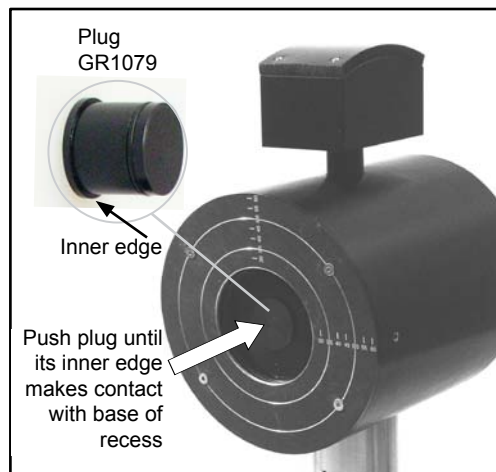

Fig. 4.14
- Test instruments such as those shown in Fig. 4.14
4. Fig. 4.14: On the **opposite** side of the Type 45CA, push Plug GR1079 into the hole as far as it will go. For sound leakage sealing, apply Silicon Grease MI0016 to the plug.